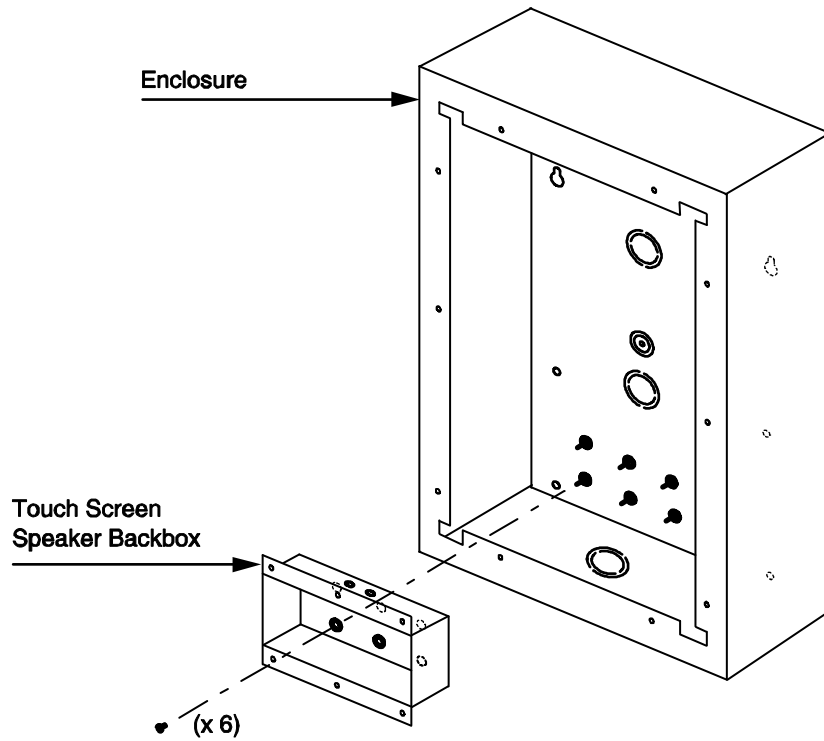

Figure 4. Touch Screen Backbox
The speaker assembly consists of a back box and speaker housing, and attaches directly to the enclosure below the Touch Screen panel as shown in Figure 4.
1. Secure the speaker backbox onto the enclosure using the supplied six screws as shown in Figure 4.